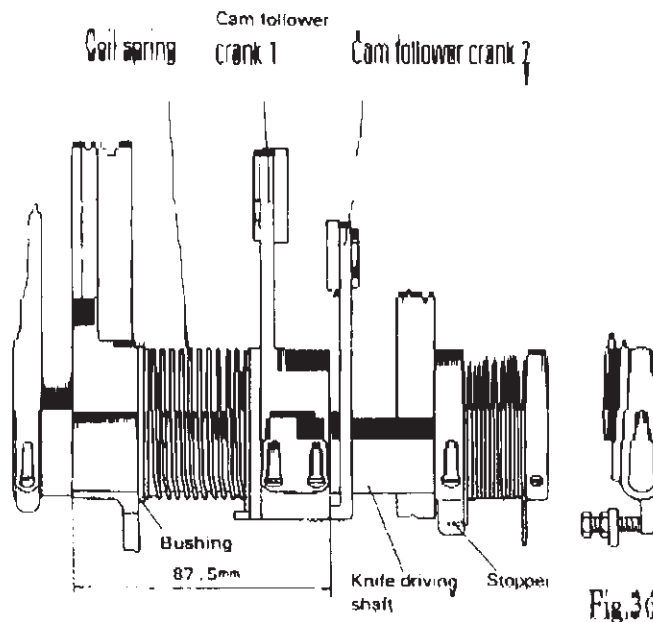

Fig.36
(1) The standard position is illustrated as Fig.36.
(2) When assembling, the knife driving shaft must first be put through the drive arm.
(3) Cam follower crank 1 must be positioned as illustrated to the right,